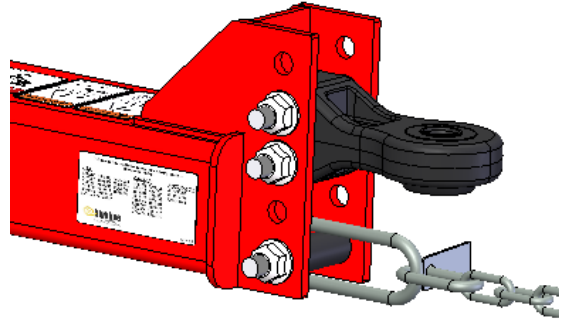

Figure 7.11: Disconnect the hitch from the tractor
13. Disconnect the hitch from the tractor; see *Figure 7.11*.